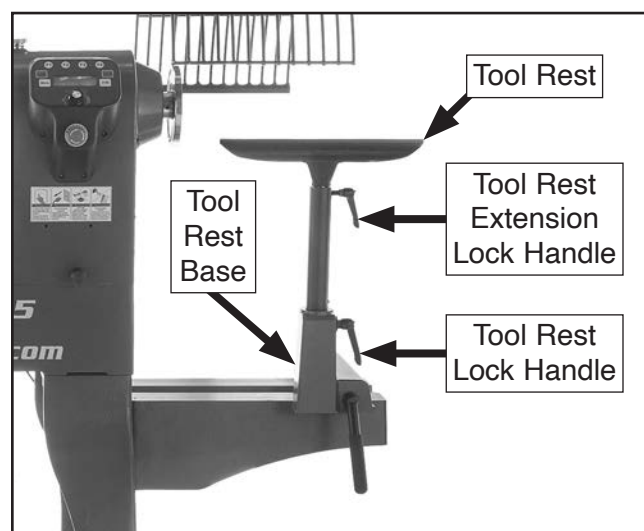

Figure 56. Tool rest extension installed.
4. Install tool rest extension in tool rest base and tighten tool rest lock handle to secure (see **Figure 56**).
5. Install tool rest in extension and tighten extension lock handle to secure tool rest position (see **Figure 56**).